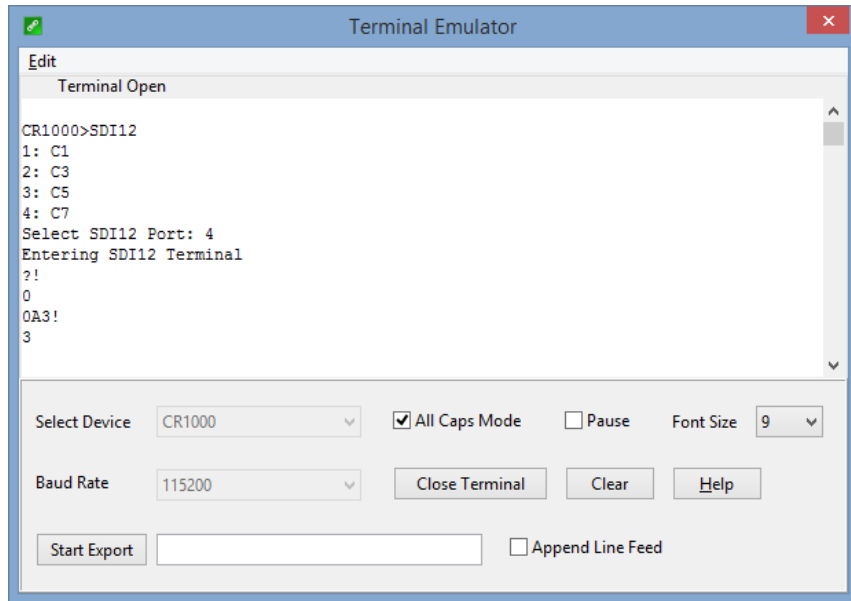

FIGURE D-1. CR1000 example of using the SDI-12 transparent mode to change the SDI-12 address from 0 to 3. Sensor is connected to control port 1.
10. To change the SDI-12 address, type **aAb!**, where *a* is the current address from the above step and *b* is the new address (see FIGURE D-1). Press Enter. The sensor changes its address and responds with the new address.
D.3.2 Changing an SDI-12 Address – CR200(X) Series